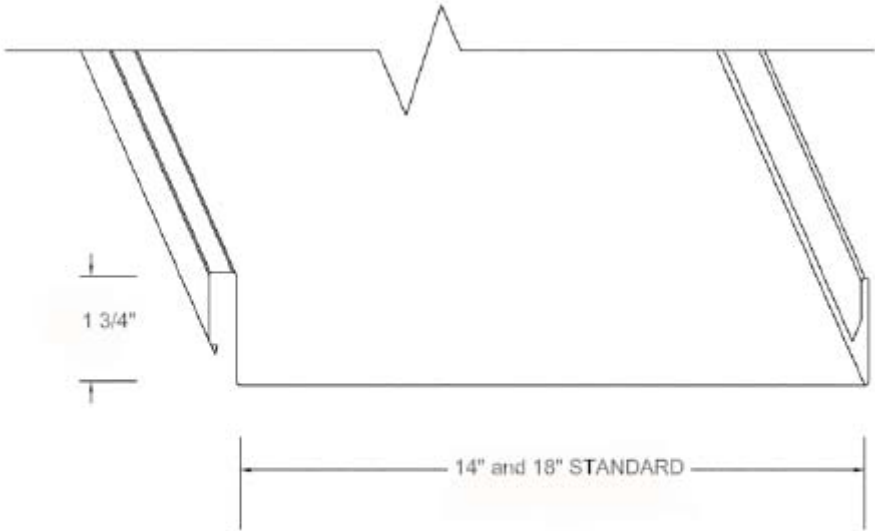

FIGURE 3—SL-1750 PANEL
- SL-175: This profile is formed to 14- or 18-inch-wide (356 or 457 mm) panels, with 1³/₄-inch-high (44 mm) snap-locking seams. See Figure 3.